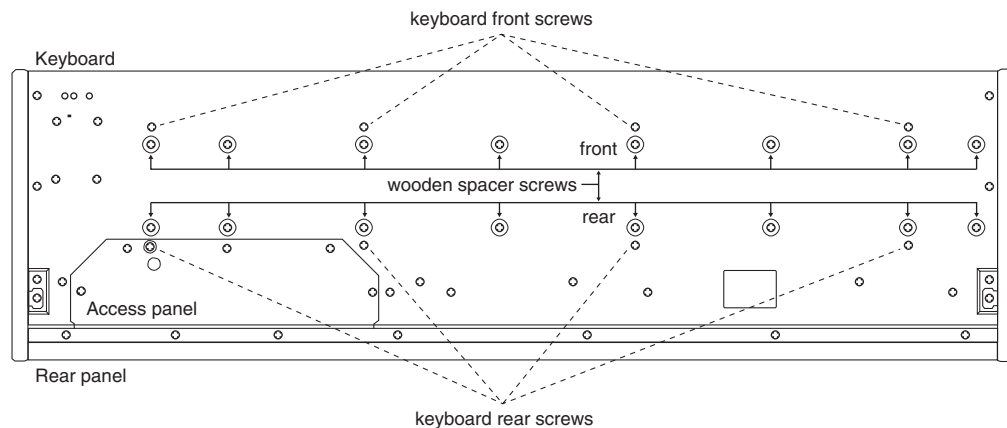

Figure 4-11 PC2 76-note keyboard bottom
1. Refer to Figure 4-11 on page 4-19. Slide the left side of the unit forward off of your work surface so that you can access the four screws and washers securing the assembly to the bottom enclosure. Remove the four screws and washers.
1. Refer to Figure 4-11. This illustration shows the locations of the keyboard and keyboard wooden spacer screws. Both sets of screws are accessible from the bottom enclosure.
1. Refer to Figure 4-11.
2. Refer to Figure 4-11.